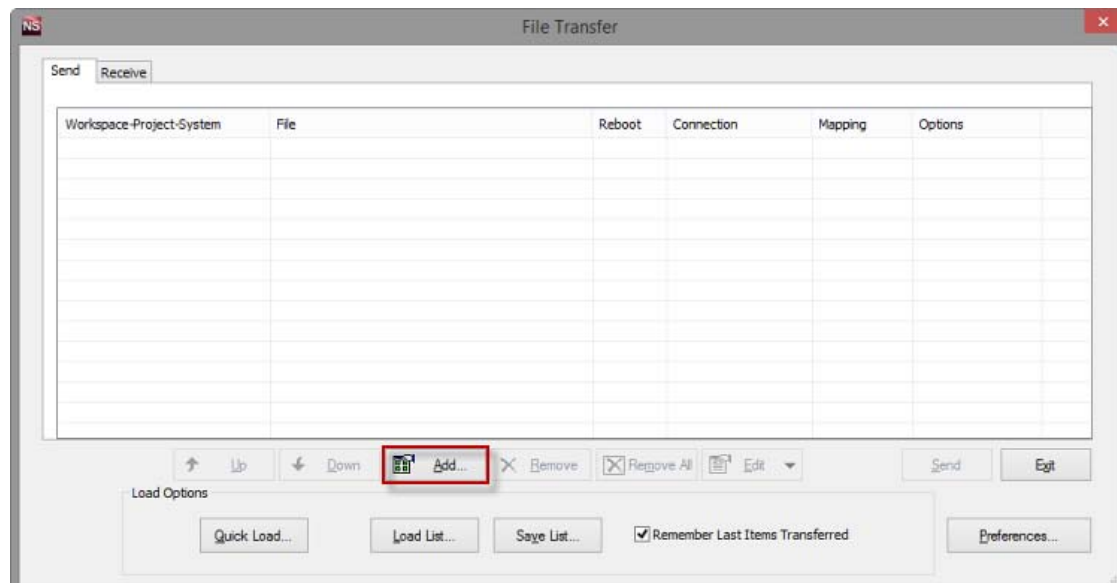

FIG. 164 NetLinx Studio 4 - File Transfer dialog
1. In NetLinx Studio 4, select **Tools -> File Transfer** to open the *File Transfer* dialog - *Send* tab (FIG. 164):